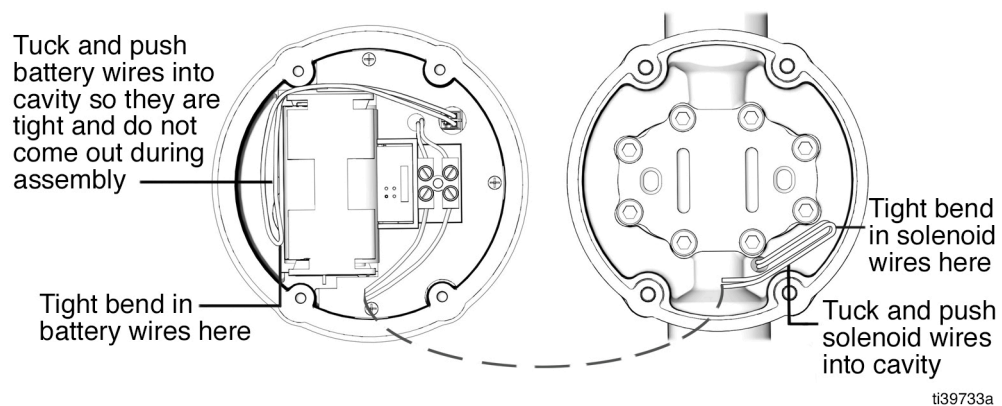

FIG. 9
2. Remove the impact guard (37).
3. Remove the four (4) screws (9) from the meter housing (10), and remove the electronics bezel (1).
4. Locate the battery pack and remove the batteries (36).
8. Position the wires as shown in FIG. 9, to minimize pinching the wires between the meter housing and the bezel housing.
9. Inspect the bezel seal (2) for damage. Replace, if needed.
10. Place the electronics bezel (1) onto the meter housing (10).
11. Reinstall the four (4) screws (9), tightening the screws in a diagonal pattern to 15 - 25 in-lb (1.7 - 2.8 N•m).